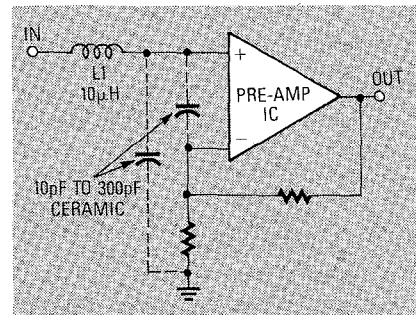

FIG. 25—THE CIRCUIT SHOWN HERE can be used to eliminate RF pickup.
0.1 µF ceramic or 0.001 µF tantalum capacitor across the IC power pins. The latter, RF pickup, manifests itself as AM demodulation. It can usually be eliminated with a 10-µH RF choke in series with an IC's input terminals, or by also decoupling the input with a capacitor, as in Fig. 25.